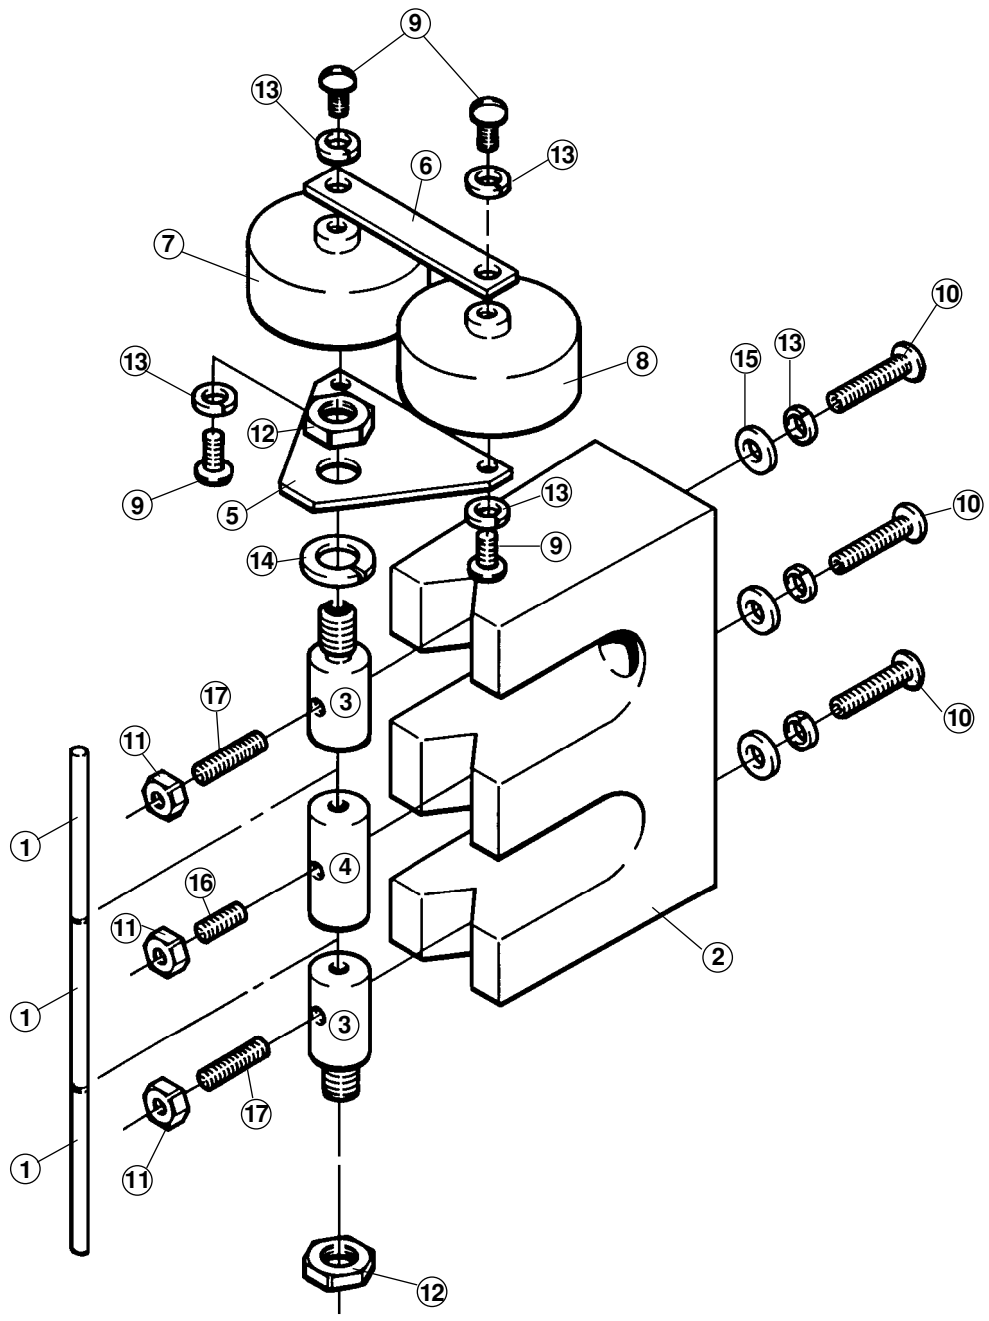

Figure 9-12 Remote High Frequency Console – Spark Gap Assembly
** See Fig. 9-12 for detail of Spark Gap Assy